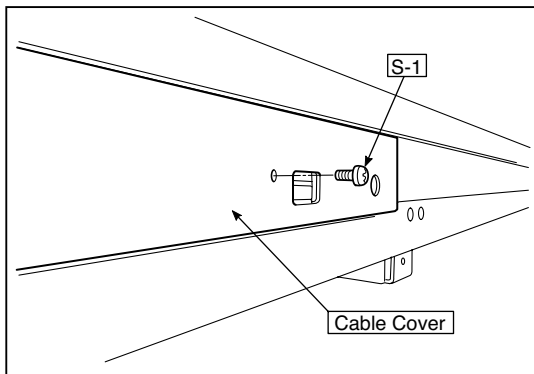

Fig.1
1) Remove the Main Board Assy. (See Figs. 1 and 2.)
1.Remove the "S-1" screws shown in the figure 1 and then remove the Cable Cover.